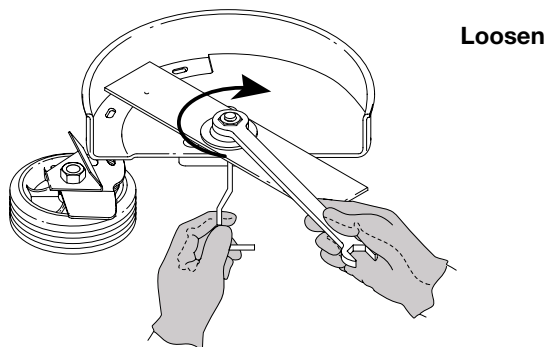

Fig. 27
2. While holding the locking rod, loosen the nut on the blade by turning it **clockwise** with a 5/8 inch wrench (Fig. 27). Remove the nut, retaining washer and blade. Keep the nut and blade retainer for installation.